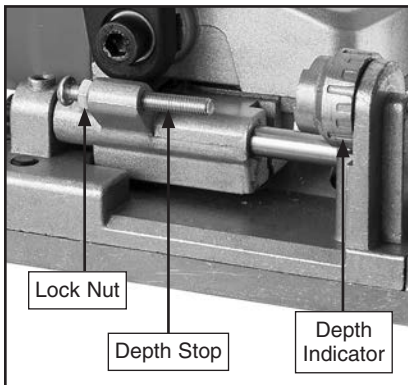

Figure 11. Location of cutting depth adjustment components.
- If measurement *does not* equal 10mm, loosen depth stop lock nut (see **Figure 11**) and reduce or extend depth stop until measurement equals 10mm. Tighten depth stop lock nut once depth is reached.